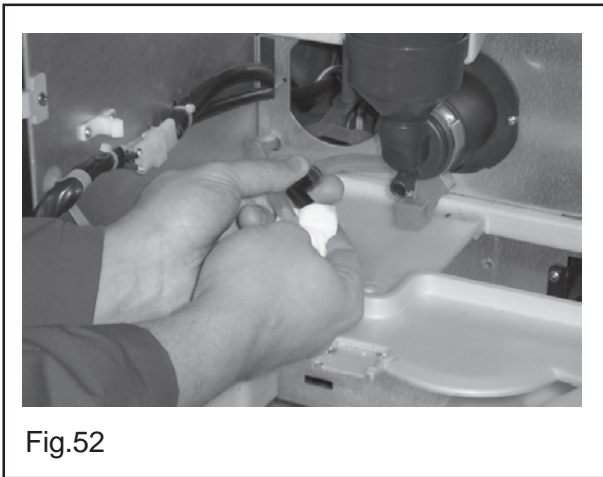

Fig.52
- silicon drain hoses (fig.52)